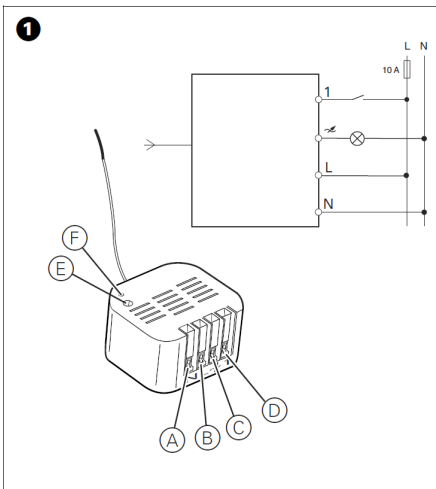

Figure 1 – EM6610 connectors
2. Connect the dimmer as shown (Fig. 1):
- a. Neutral conductor at terminal "N" (A).
- b. Phase at terminal "L" (B).
- c. Luminaire at terminal "~" (C).
- d. Extension push-button (optional) at terminal "1" (D).